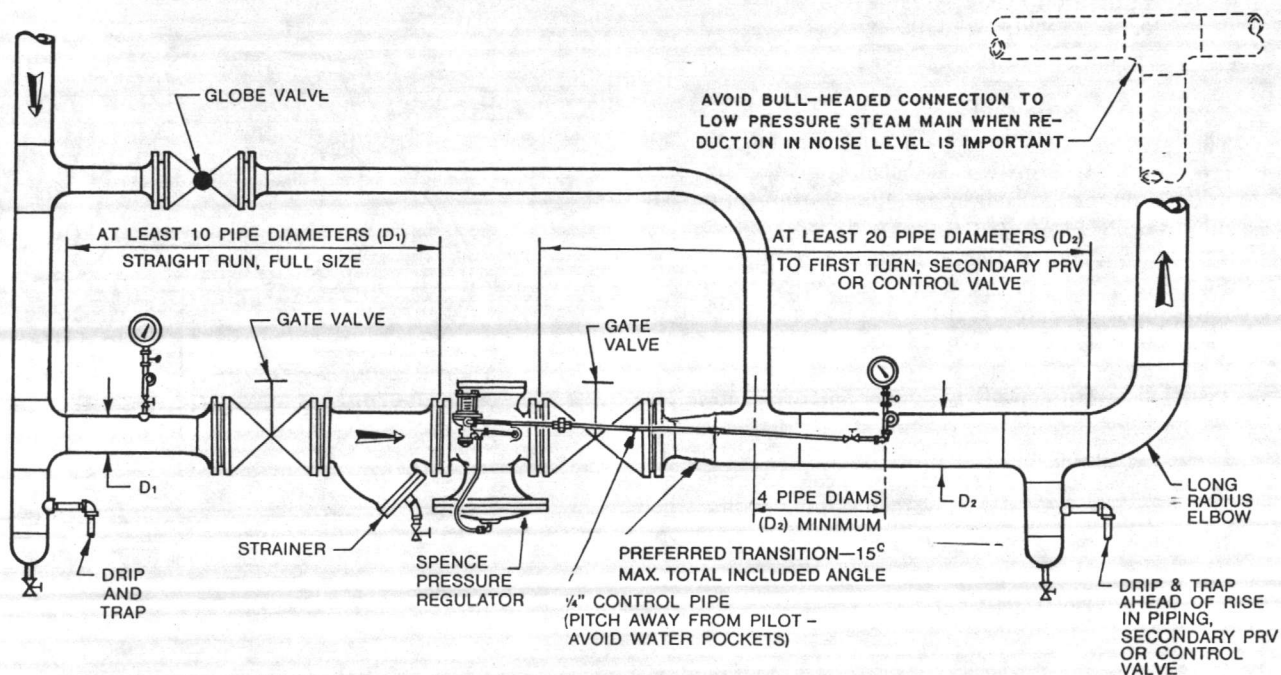

FIG. 1—RECOMMENDED INSTALLATION OF REGULATOR WITH STRAINER
1. Use $\frac{1}{4}$ " pipe for this line which connects the pilot diaphragm chamber to the desired point of pressure control. See Fig. 1.
5. Steam may wash the obstruction from the seat if the valve is made to open wide. This can be accomplished, even at light loads, if the control point is beyond the outlet stop valve as shown in Fig. 1. Reassemble bleedport bend and place regulator in operation. Then, slowly open and close outlet stop valve.